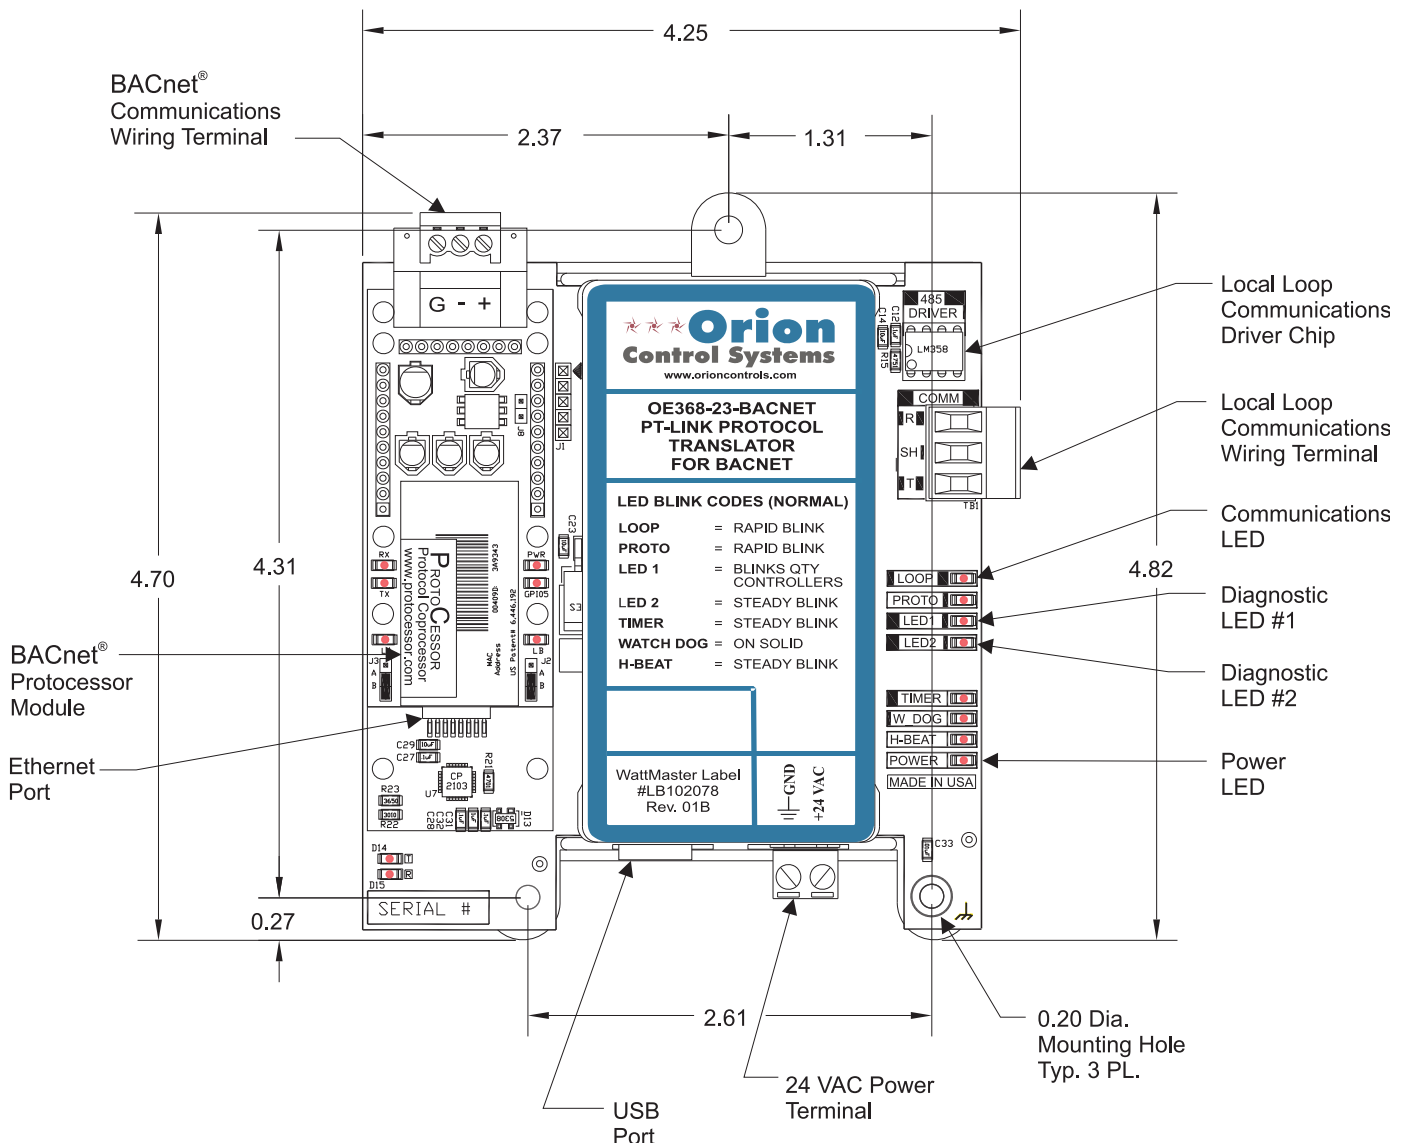

Figure 1: PT-Link II BACnet® Dimensions and Components
1. Familiarize yourself with the PT-Link II components (**Figure 1**).